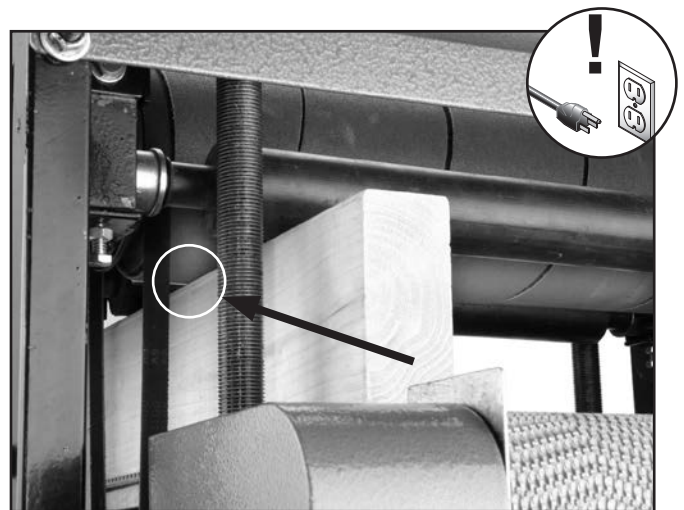

Figure 35. Gauge block touching bottom of sanding drum.
4. Raise the table so the gauge blocks touch the bottom of the sanding drum, as shown in **Figure 35**.